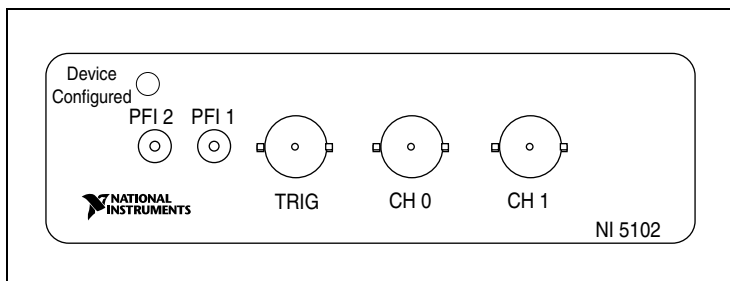

Figure 11. NI USB-5102 Front Panel
- ◆ **NI USB-5102**—Figure 11 shows the NI USB-5102 front panel.